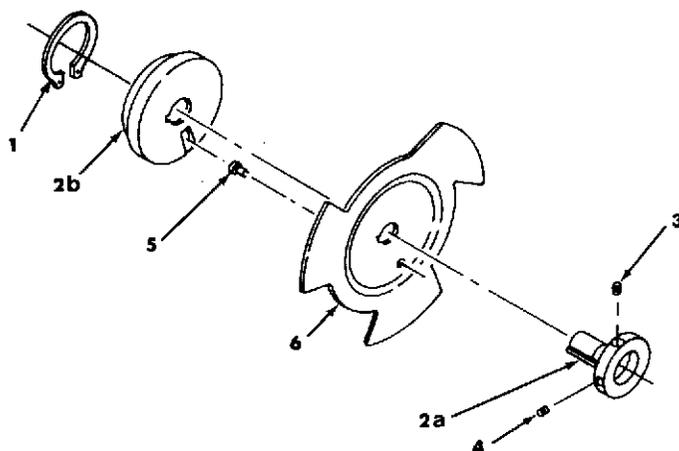

Figure 3-13. SHUTTER AND CAM ASSEMBLY
- a. Loosen collar (18) then (30) for easy removal of ring (16).
1. Shutter and Cam Assembly (Fig. 3-13)
- a. Press ring (1) on hub (2a), allowing no end play on cam (2b).